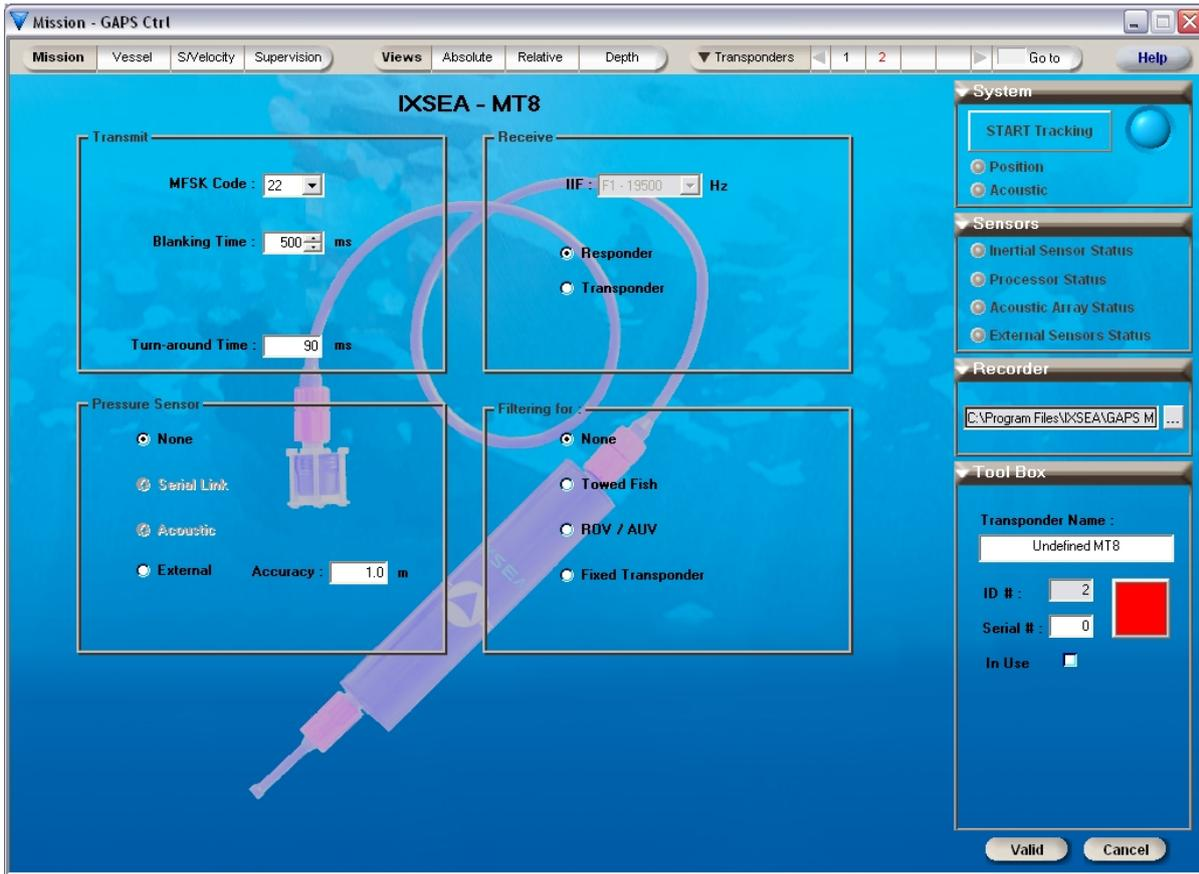

Figure 41 - Transponder MT8 view
- The New transponder window (see Figure 41): access it by selecting **New...** option under **Transponders** menu
- See Figure 41 for a multi-frequency transponder: access it once you have clicked **Create** button in the New Transponder window.